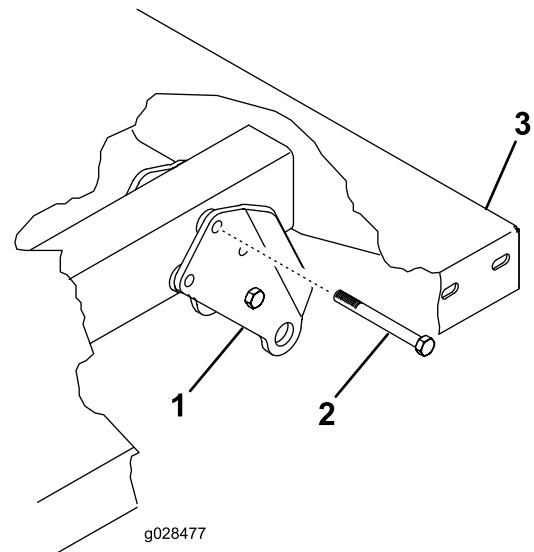

**Figure 1**
- Loosely assemble each set of rear pivot brackets together with a pivot tube, a bolt (3/8 x 3-3/4 inches), and a locknut (3/8 inch) using the holes shown in Figure 1.